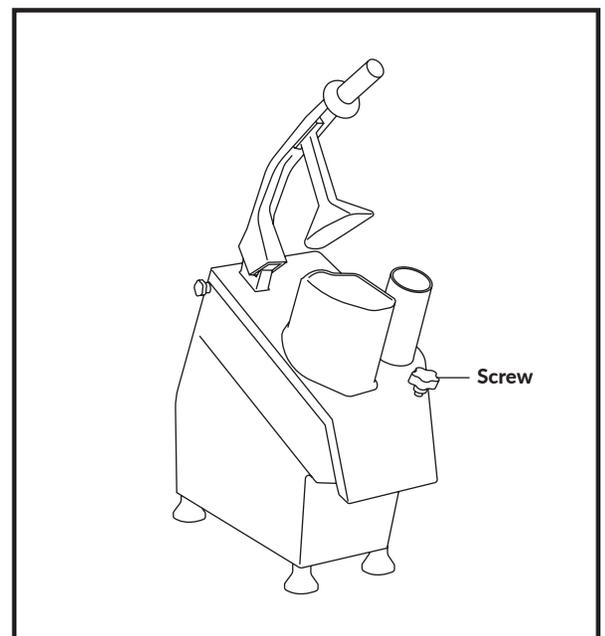

Fig. 6
4. Close the cover and tighten the lid to secure. (Fig. 6)